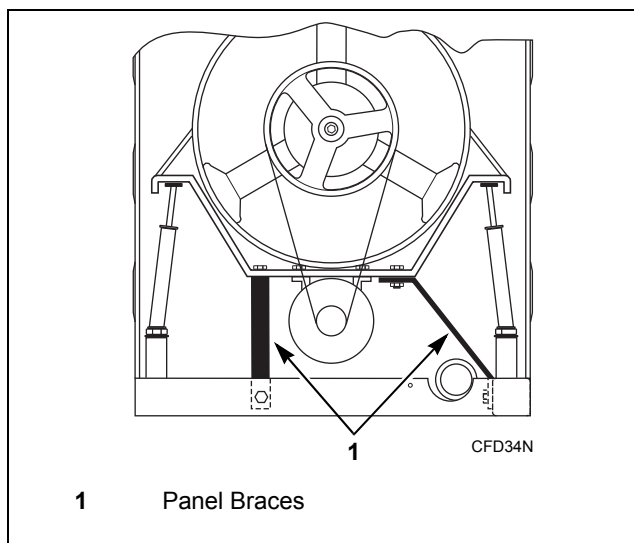
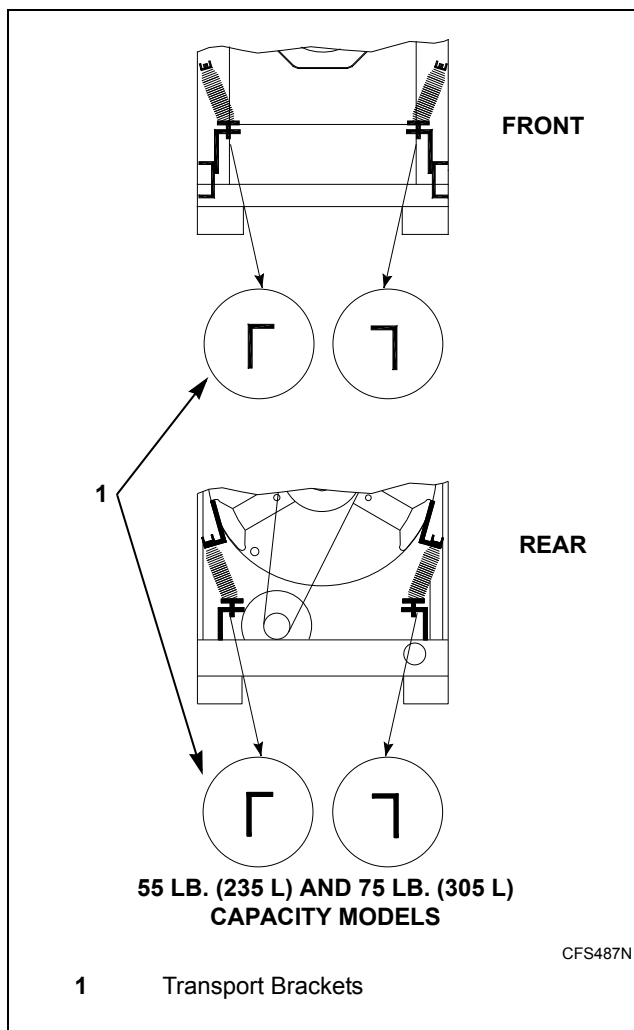

Figure 9
Figure 10
9. Remove the four red transport brackets which secure the moving components of the machine during shipping. Refer to *Figure 9* and *Figure 10* for typical transport bracket locations.
To prevent damage during transportation, the machine has been equipped with four red transport brackets (refer to *Figure 9* for 12 lb. (60 l), 14 lb. (65 l), 18 lb. (75 l), 25 lb. (100 l), 30 lb. (135 l) and 35 lb. (165 l) capacity models; refer to *Figure 10* for 55 lb. (235 l) and 75 lb. (305 l) capacity models [depending on model number]) to eliminate every possible movement of the tub.
For 12 lb. (60 l), 14 lb. (65 l), 18 lb. (75 l), 25 lb. (100 l), 30 lb. (135 l) and 35 lb. (165 l) capacity models, remove the panel braces. Refer to *Figure 9*.